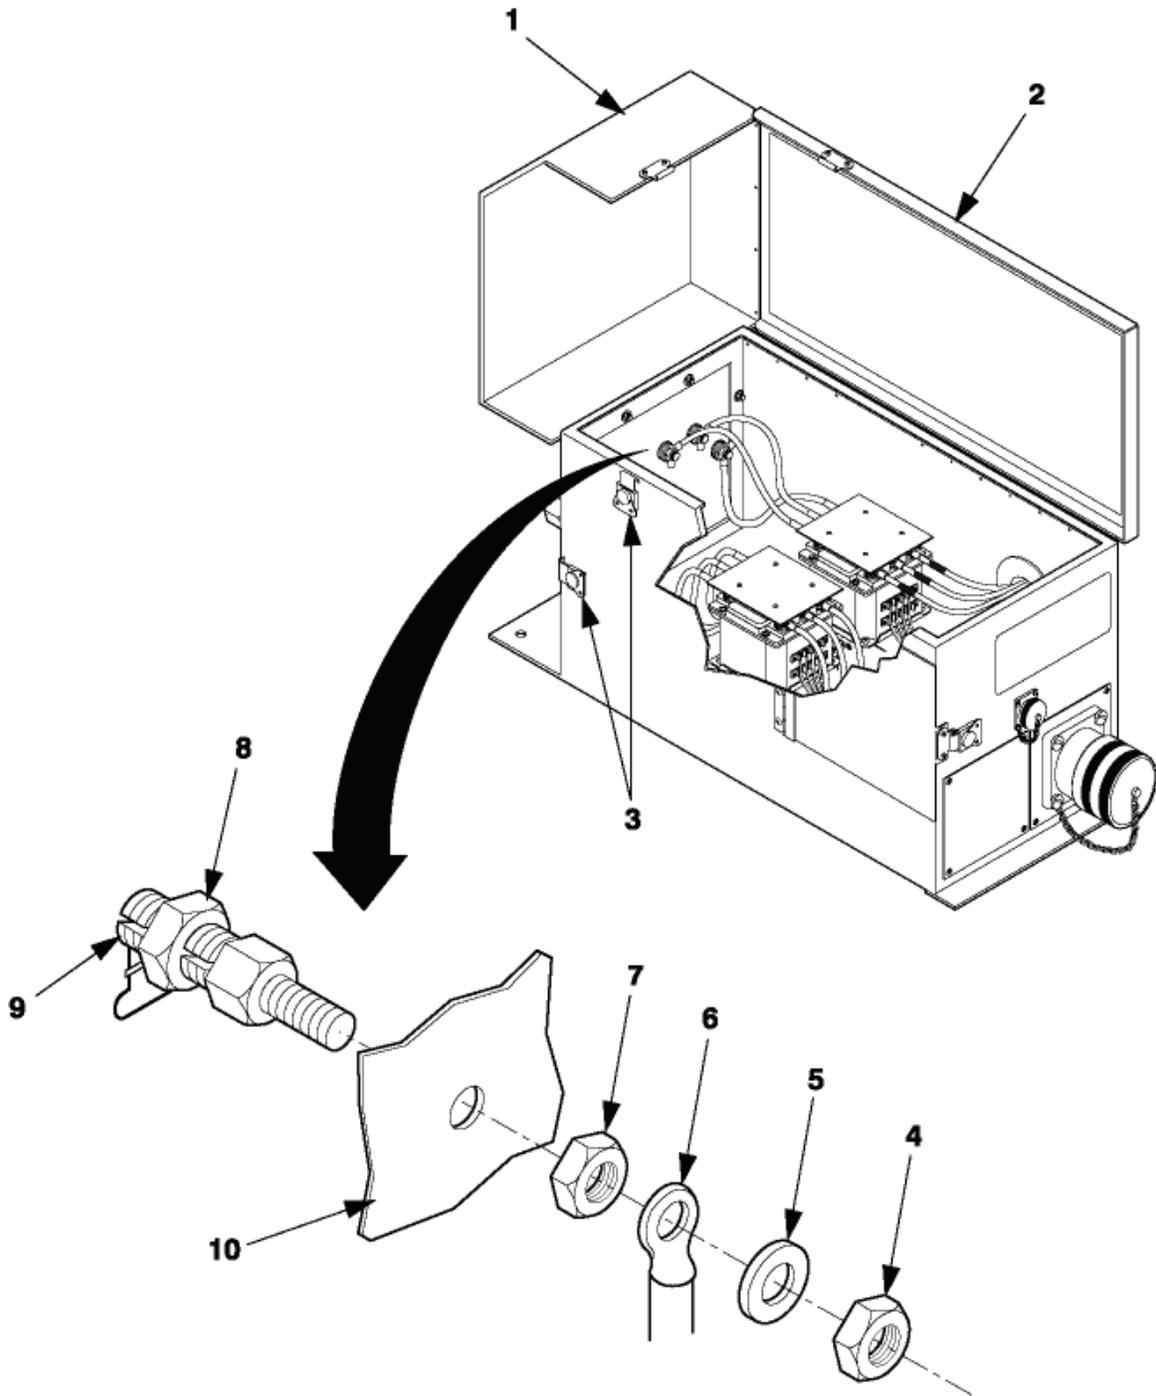

Figure 4-15.1. Switch Box Load Terminal Maintenance (B&C Models)
1. Release clamping catch (3, figure 4-15.1) and open load terminal door (1).
2. Release clamping catch (3) of switch box cover (2) in front of switch box assembly.
3. Lift switch box cover (2).
4. Disconnect external load terminal lead from defective terminal (9).
5. Remove nut (4), tooth lock washer (5), and leads (6) from defective load terminal (9).
6. Remove nut (7) that secures load terminal (9) to mounting plate (10).
7. Remove load terminal (9).
5. Close load terminal door (1, figure 4-15.1) and secure with clamping catch (3).